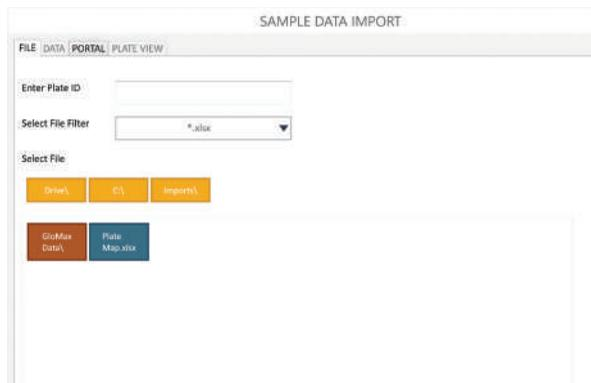

Figure 43. ‘Sample Data Import’ screen. First screen shown when importing a plate map into the GloMax® Software.
3. Tap the **Import** button located on the right side of the ‘Protocol-specific’ screen (Figure 42) to display the ‘Sample Data Import’ screen (Figure 43).